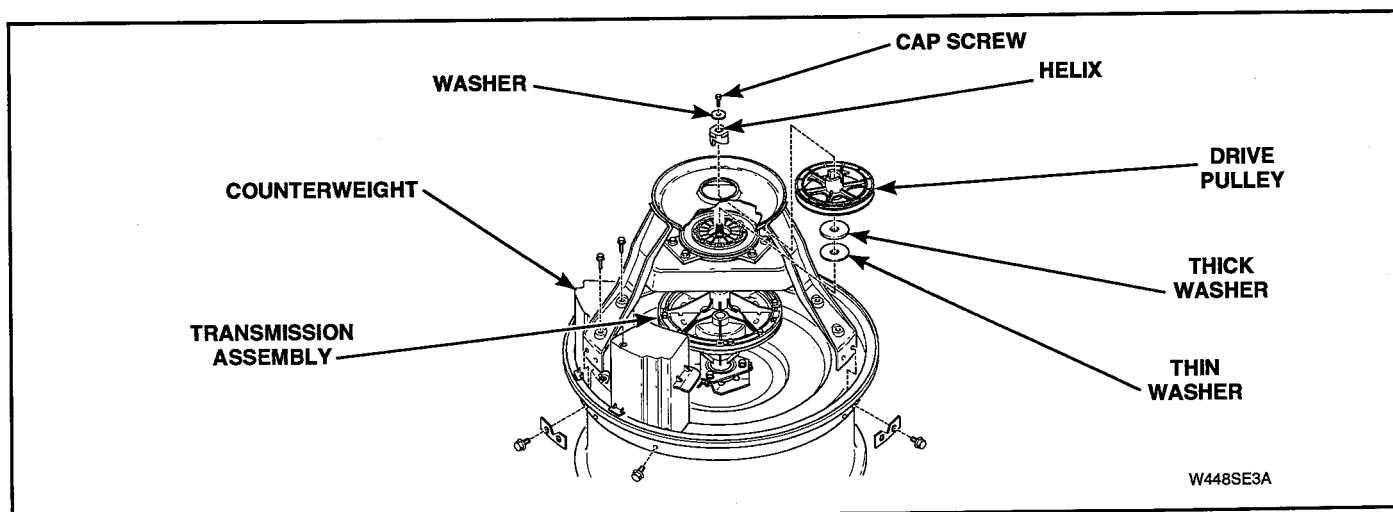
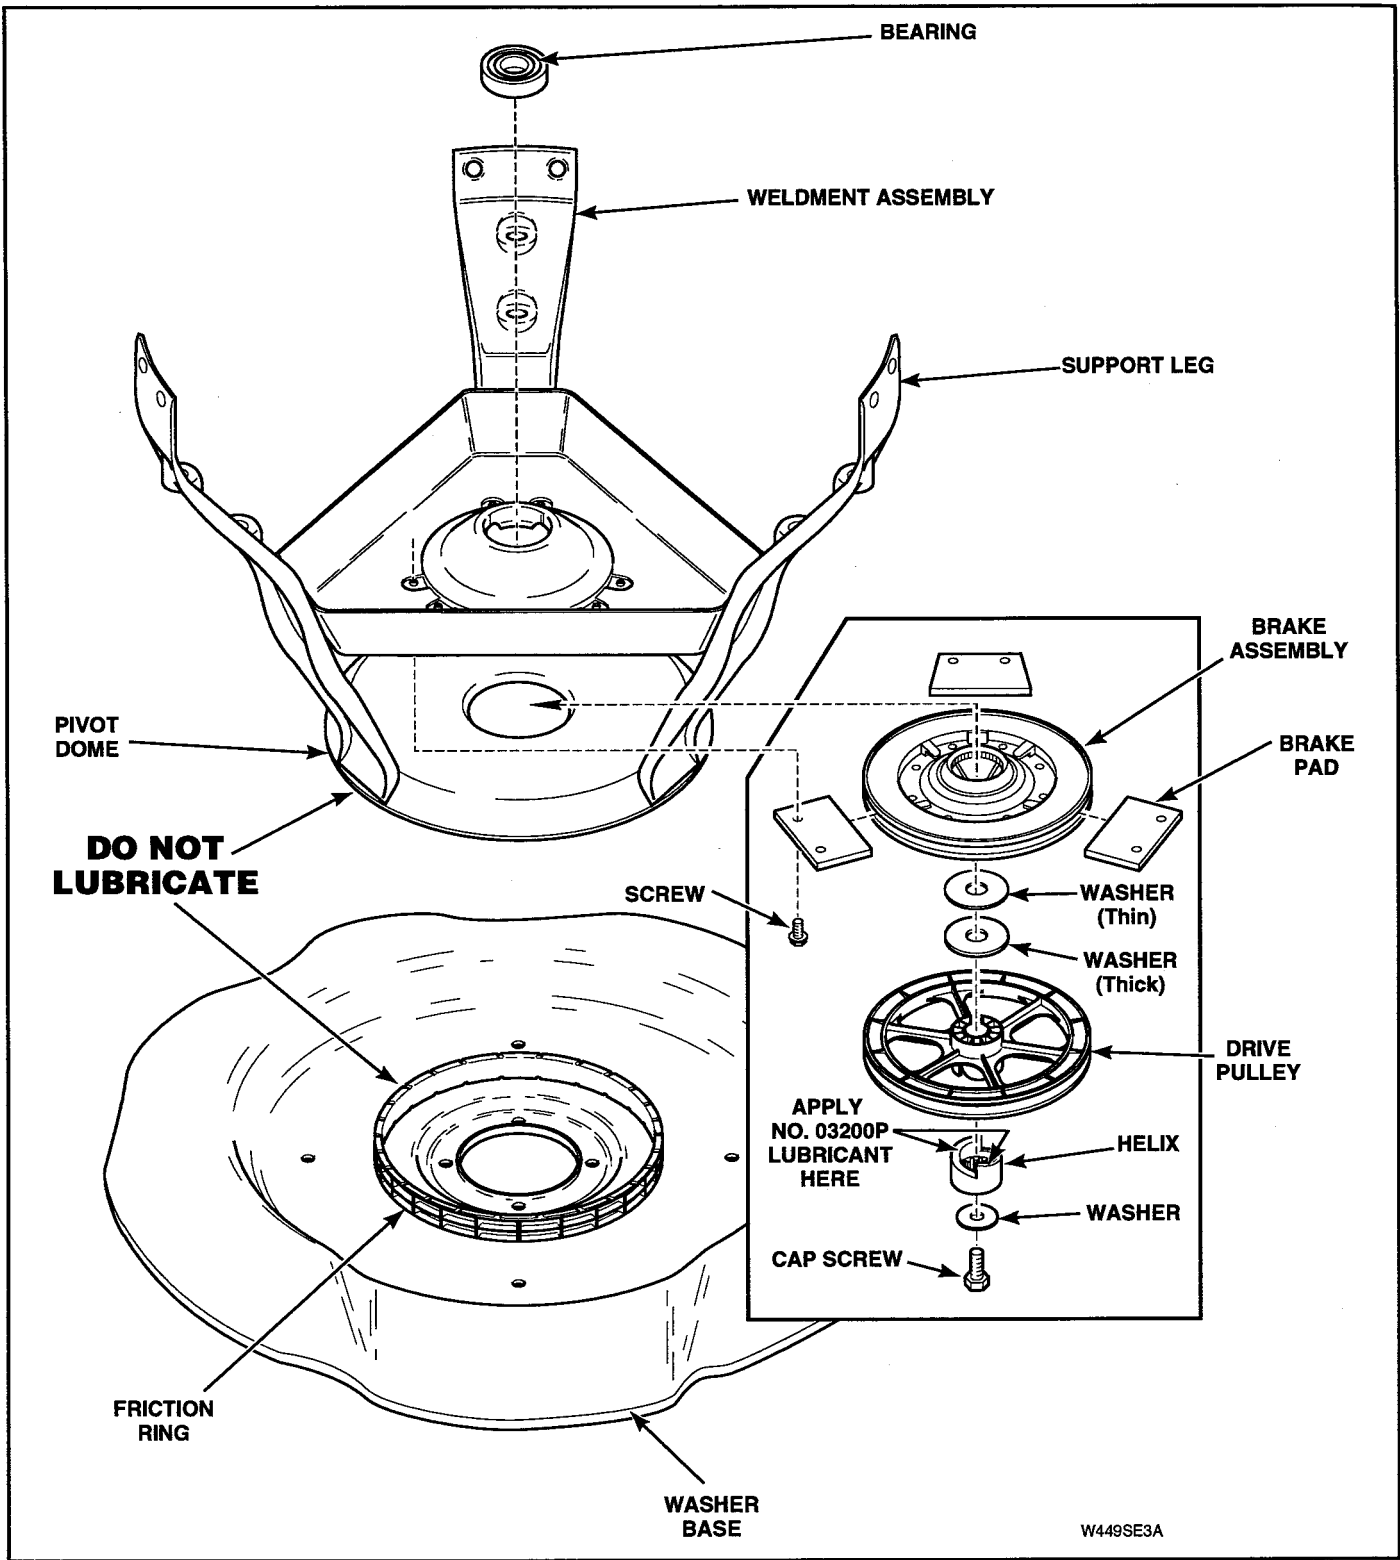

Figure 5-35
Figure 5-36
- m. Remove screw, washer and helix holding drive pulley to input shaft and transmission assembly. See Figure 5-35.
NOTE: When reinstalling pulley, place a small amount of No. 03200P Lubricant on top side of the drive pulley that will be contacting large flat washers. See Figure 5-35 for assembly sequence. Lubricate helix ramps and bore with a small amount of No. 03200P Lubricant. See Figure 5-36.
- o. Remove screws holding three brake pads and brake assembly to weldment assembly. See Figure 5-36. Then remove brake assembly and pads off bottom of weldment assembly.
NOTE: Refer to Figure 5-36 for assembly sequence.